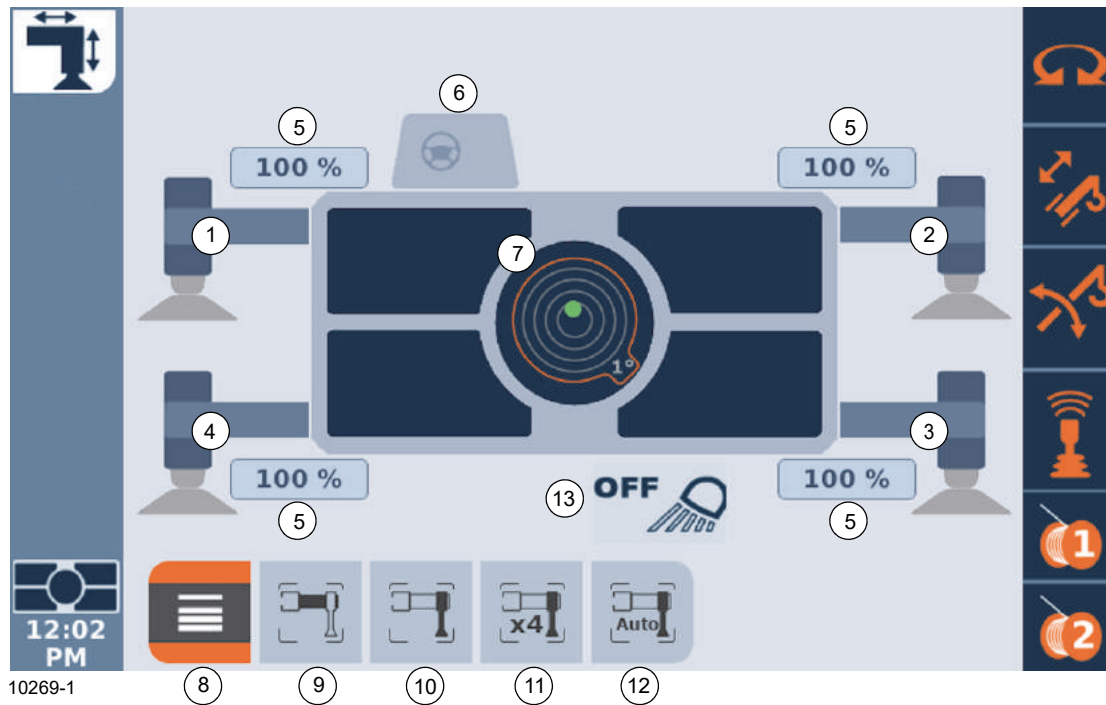

FIGURE 4-94
The Outrigger Extend/Retract function screen (Figure 4-94) allows the operator to set the outriggers and level the crane using either a manual or semi-automatic mode. The Outrigger Extend/Retract function screen is also used to retract and stow the outriggers as well as operate the side mounted carrier work lights.
The steering wheel symbol (6, Figure 4-94) shown on the Outrigger Extend/Retract function screen corresponds to the front of the crane. The terms left and right correspond to the operator's left and right sides when looking forward over the front (axle) of the crane.
- 1. Using the Jog Dial or Arrow Buttons on the Navigation Control Pad, select the Carrier Side Lights On/Off Icon (13, Figure 4-94) (icon background will turn orange when selected).